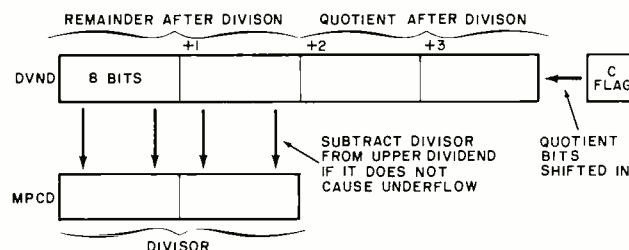

Fig. 3. Divide subroutine pseudo registers.
**Division.** Division (Figs. 3 and 4) is the